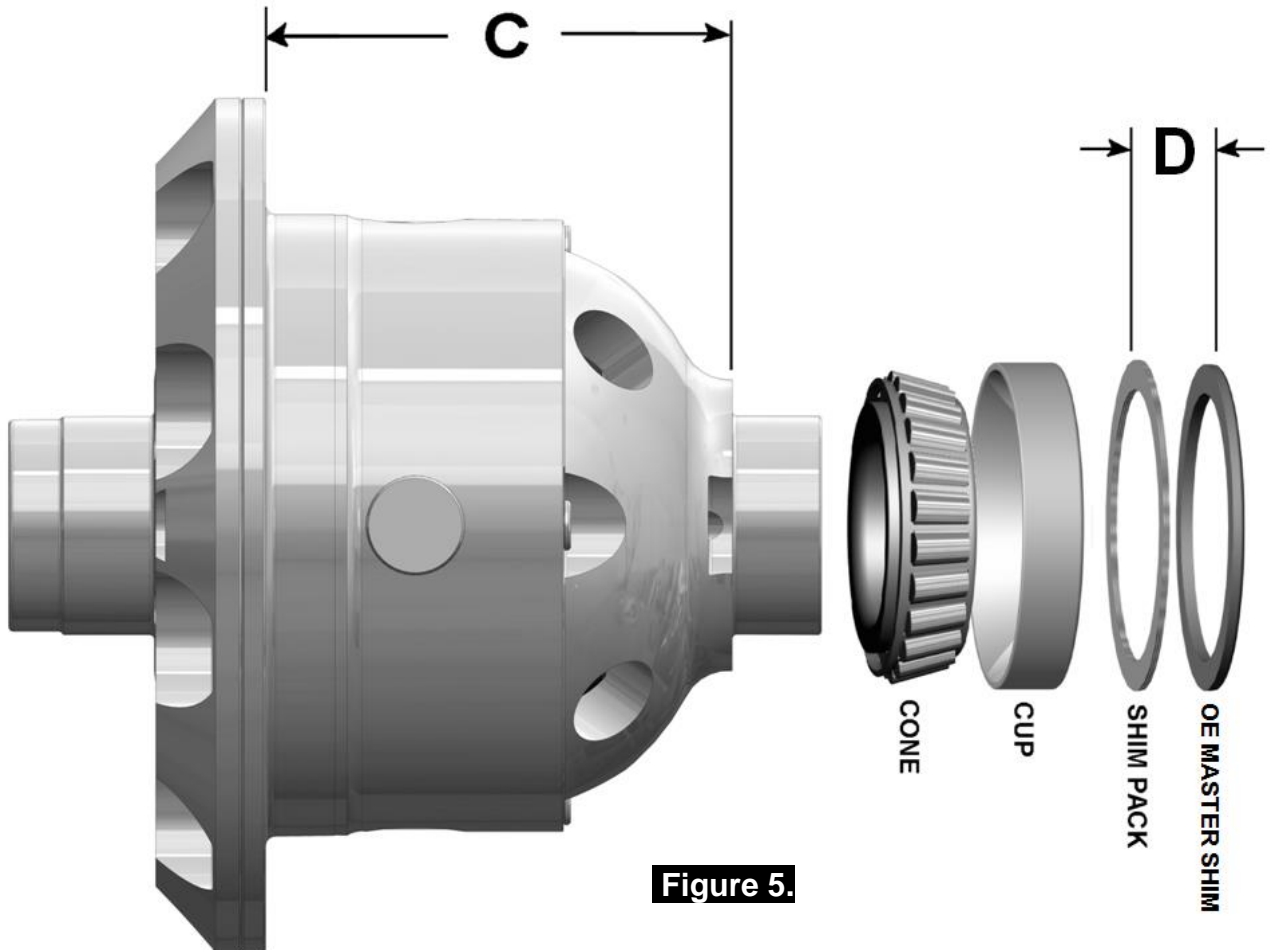

Figure 5.
The original bearing type and shim type are used on the right hand (case) side of the *Air Locker* (as pictured in Fig.5.). Measurements will, however, need to be taken to determine the correct shim thickness for this side in order to reproduce a similar backlash and pre-load to that of your existing differential.
- Measure the distance from the *Air Locker* bearing shoulder to the ring gear mounting face (shown as 'C' in Figure 5.) and record this measurement as 'C'.
The thickness of the shim pack required for the *Air Locker* (shown as 'D' in Figure 5.) can now be determined by substituting the measurements taken into the following equation.